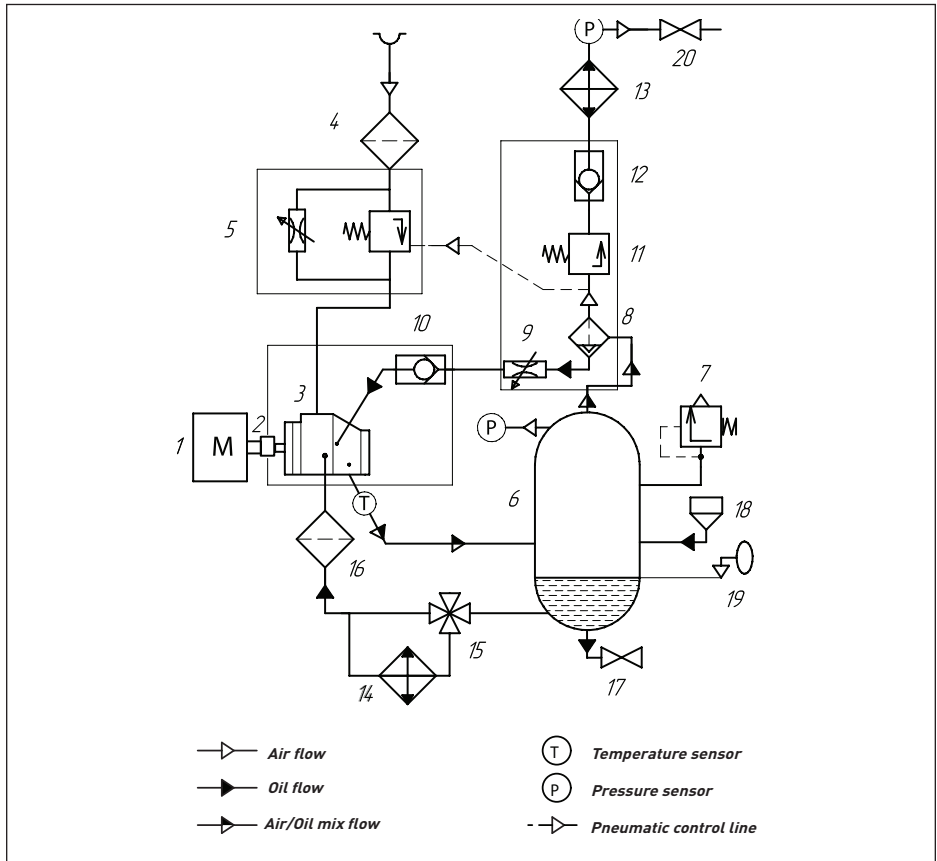

Fig. 2.3 Function diagram D75-D90
2.4 Functional description (see Fig. 2.3)